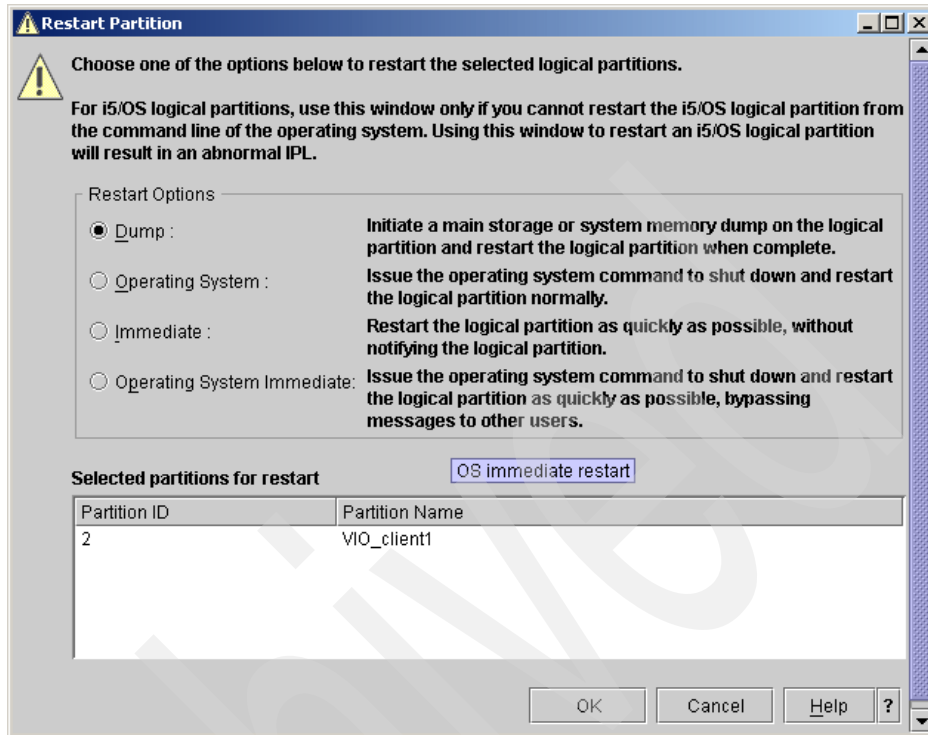

Figure 3-4 Options to reset partitions
To reset the operating system on a partition, select the partition, right-click, and select **Restart partition**. Choose between the following options: Dump, operating systems and Operating system immediate. Figure 3-4 on page 90 shows the Reset Partition window.
A hard reset virtually powers off the system. Issuing a hard reset forces termination and can corrupt information. Use this option only if the operating system is disrupted and cannot send or receive commands. To reset the operating system on a partition, select the partition, right-click, and select **Reset**. Select **Operating System**. Figure 3-4 on page 90 shows the Reset Partition window.
**Important:** Pay attention to the message about other operating systems, such as Linux and i5/OS, when selecting reset. See Figure 3-4.